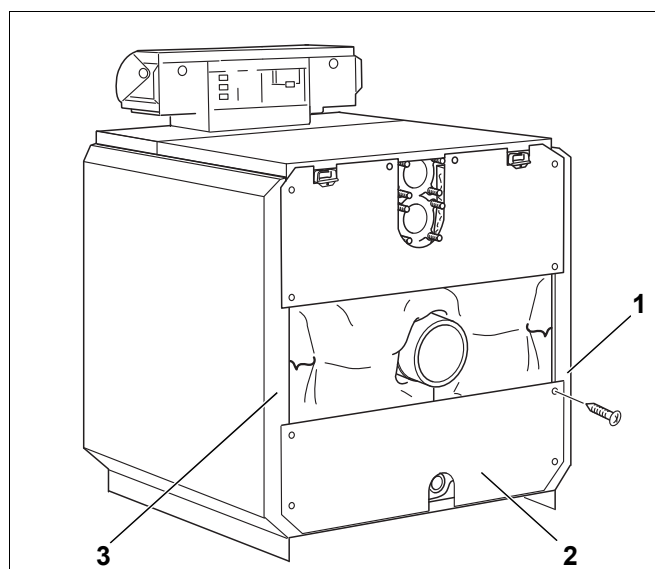

Fig. 40 Installation of the lower boiler back wall
- Secure the lower rear boiler wall (Fig. 40, [2]) – with the cut-out for the fill/drain cock at the bottom – on the side walls (Fig. 40, [1] & [3]).